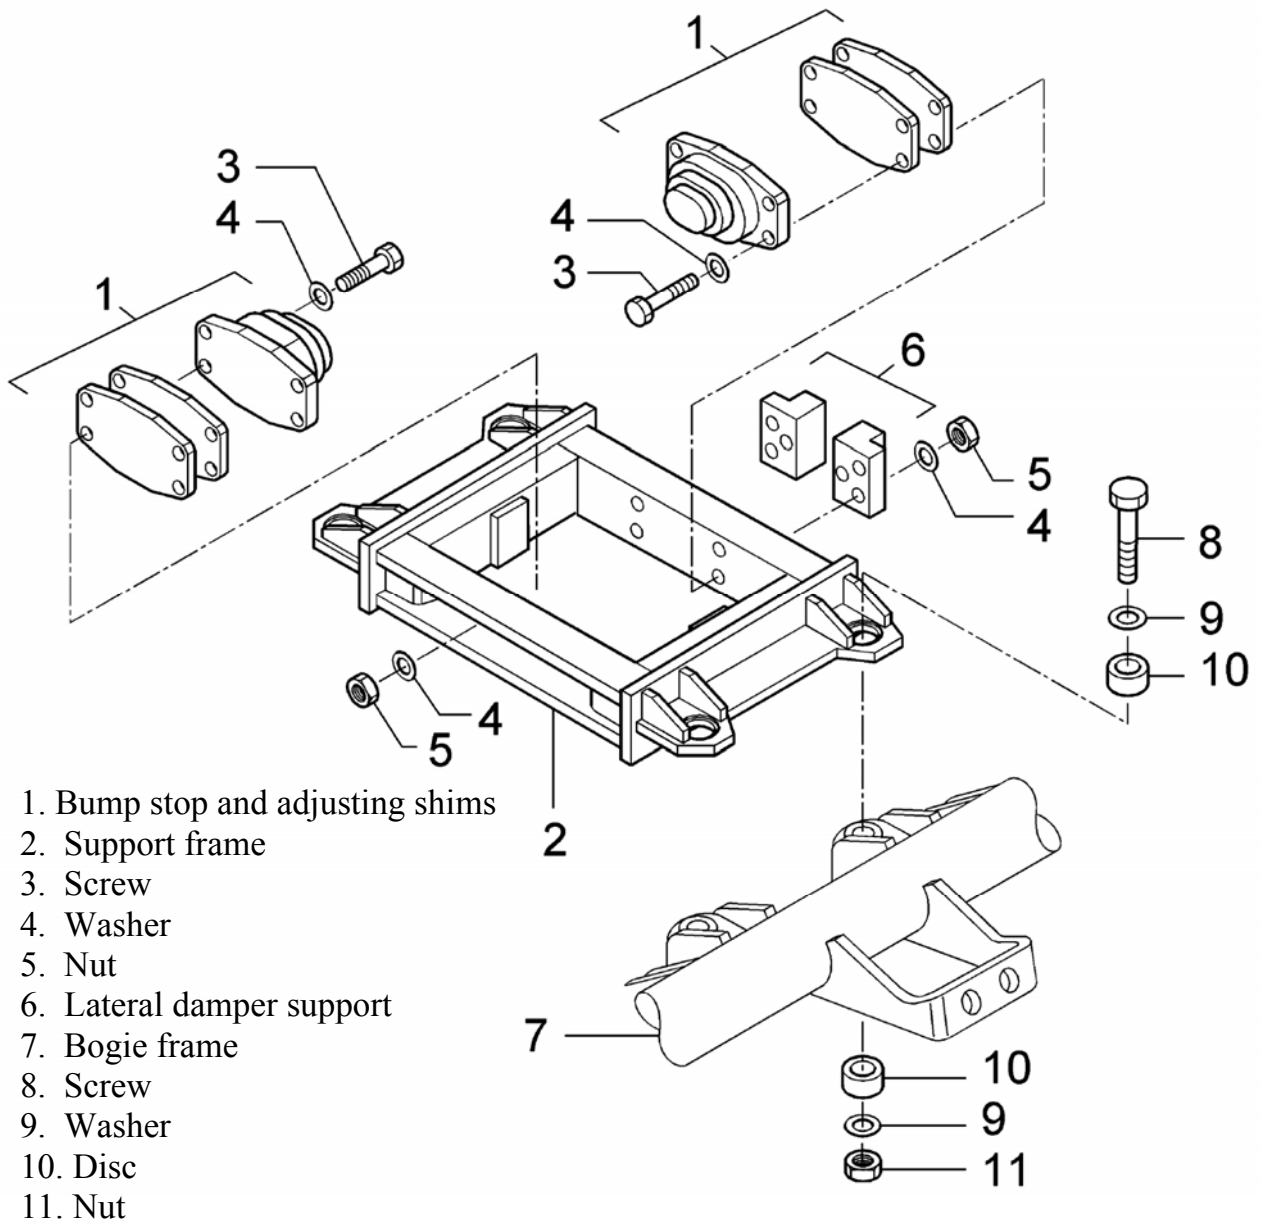

FIG.4.30 REMOVING BUMP STOPS FROM THE BOGIE FRAME
Remove the lateral bump stops (1 - FIG. 4.30) from the frame (2) extracting the screws (3), the washers (4) and the nuts (5). When dismantling them, also the support (6) for the lateral damper can be removed.